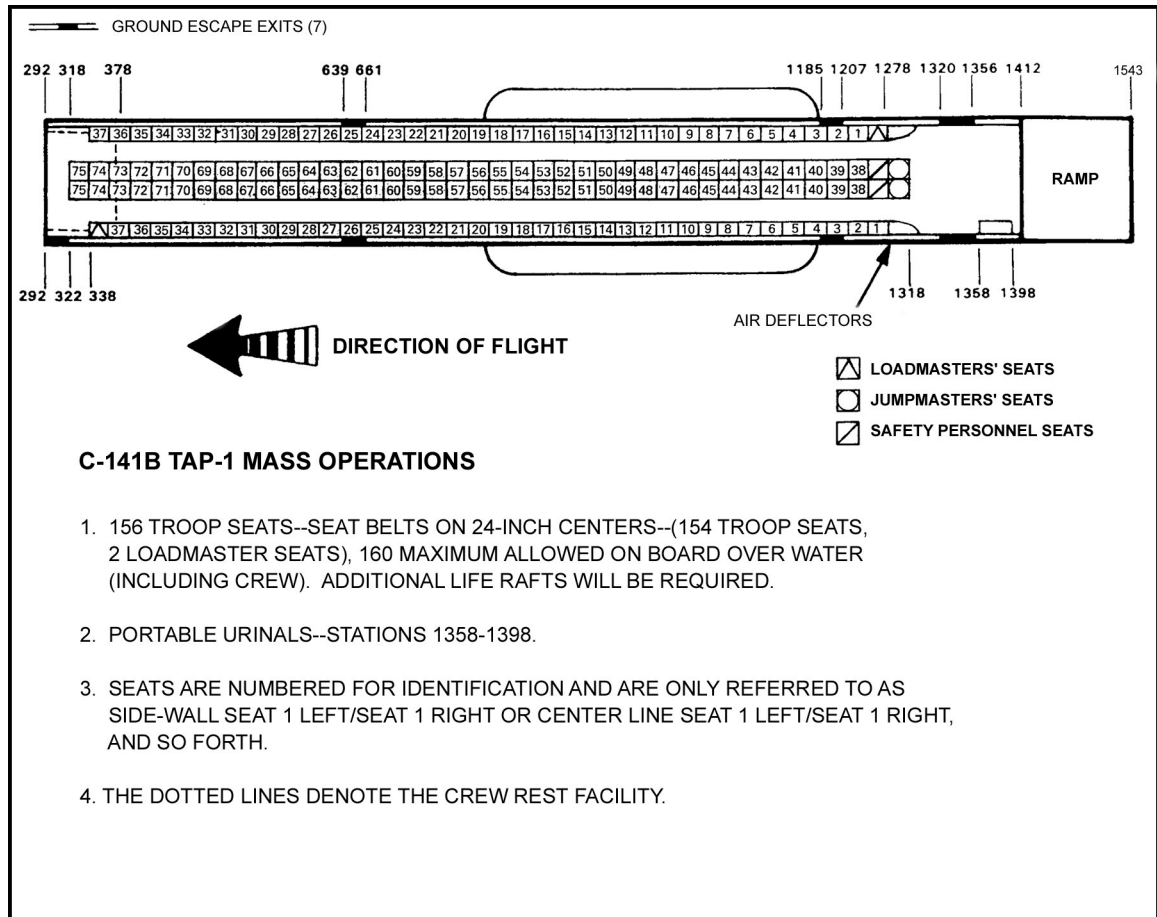

Figure 16-9. C-141B seating configuration without comfort pallet.
- a. **Peacetime Training (TAP 1).** In this configuration, the C-141B seats 156 personnel: 152 parachutists, 2 static safety personnel, and 2 airdrop qualified loadmasters (Figure 16-9). The maximum number of personnel for each anchor cable is 45.